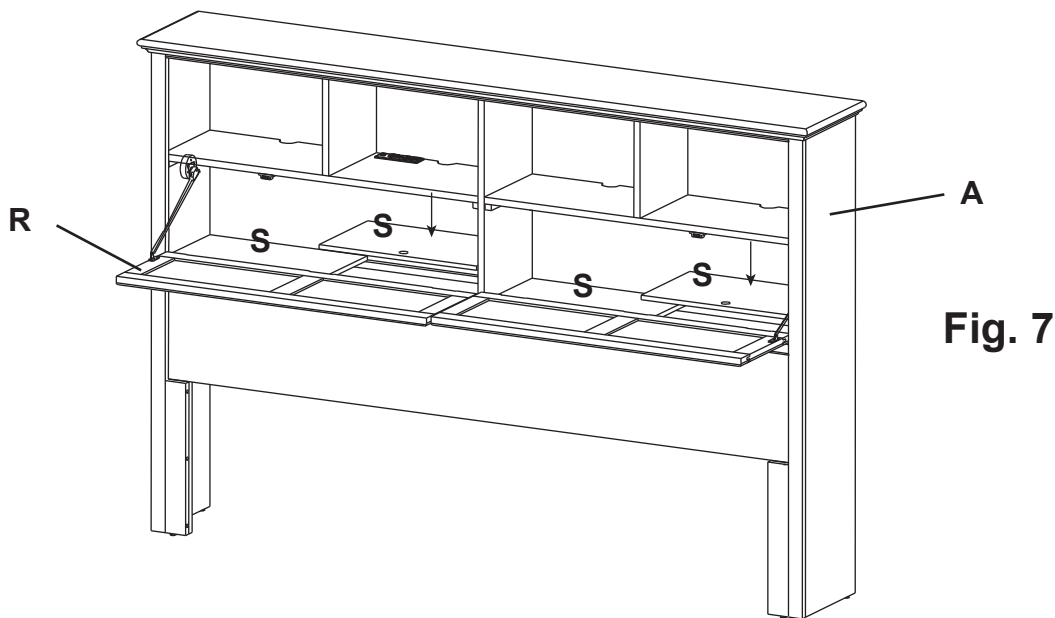

Fig. 7
7. Unwrap the False Bottoms (S) and place them on top of the rails in the Headboard Assembly (A). Make sure the finger holes face forward as shown in Figure 7.